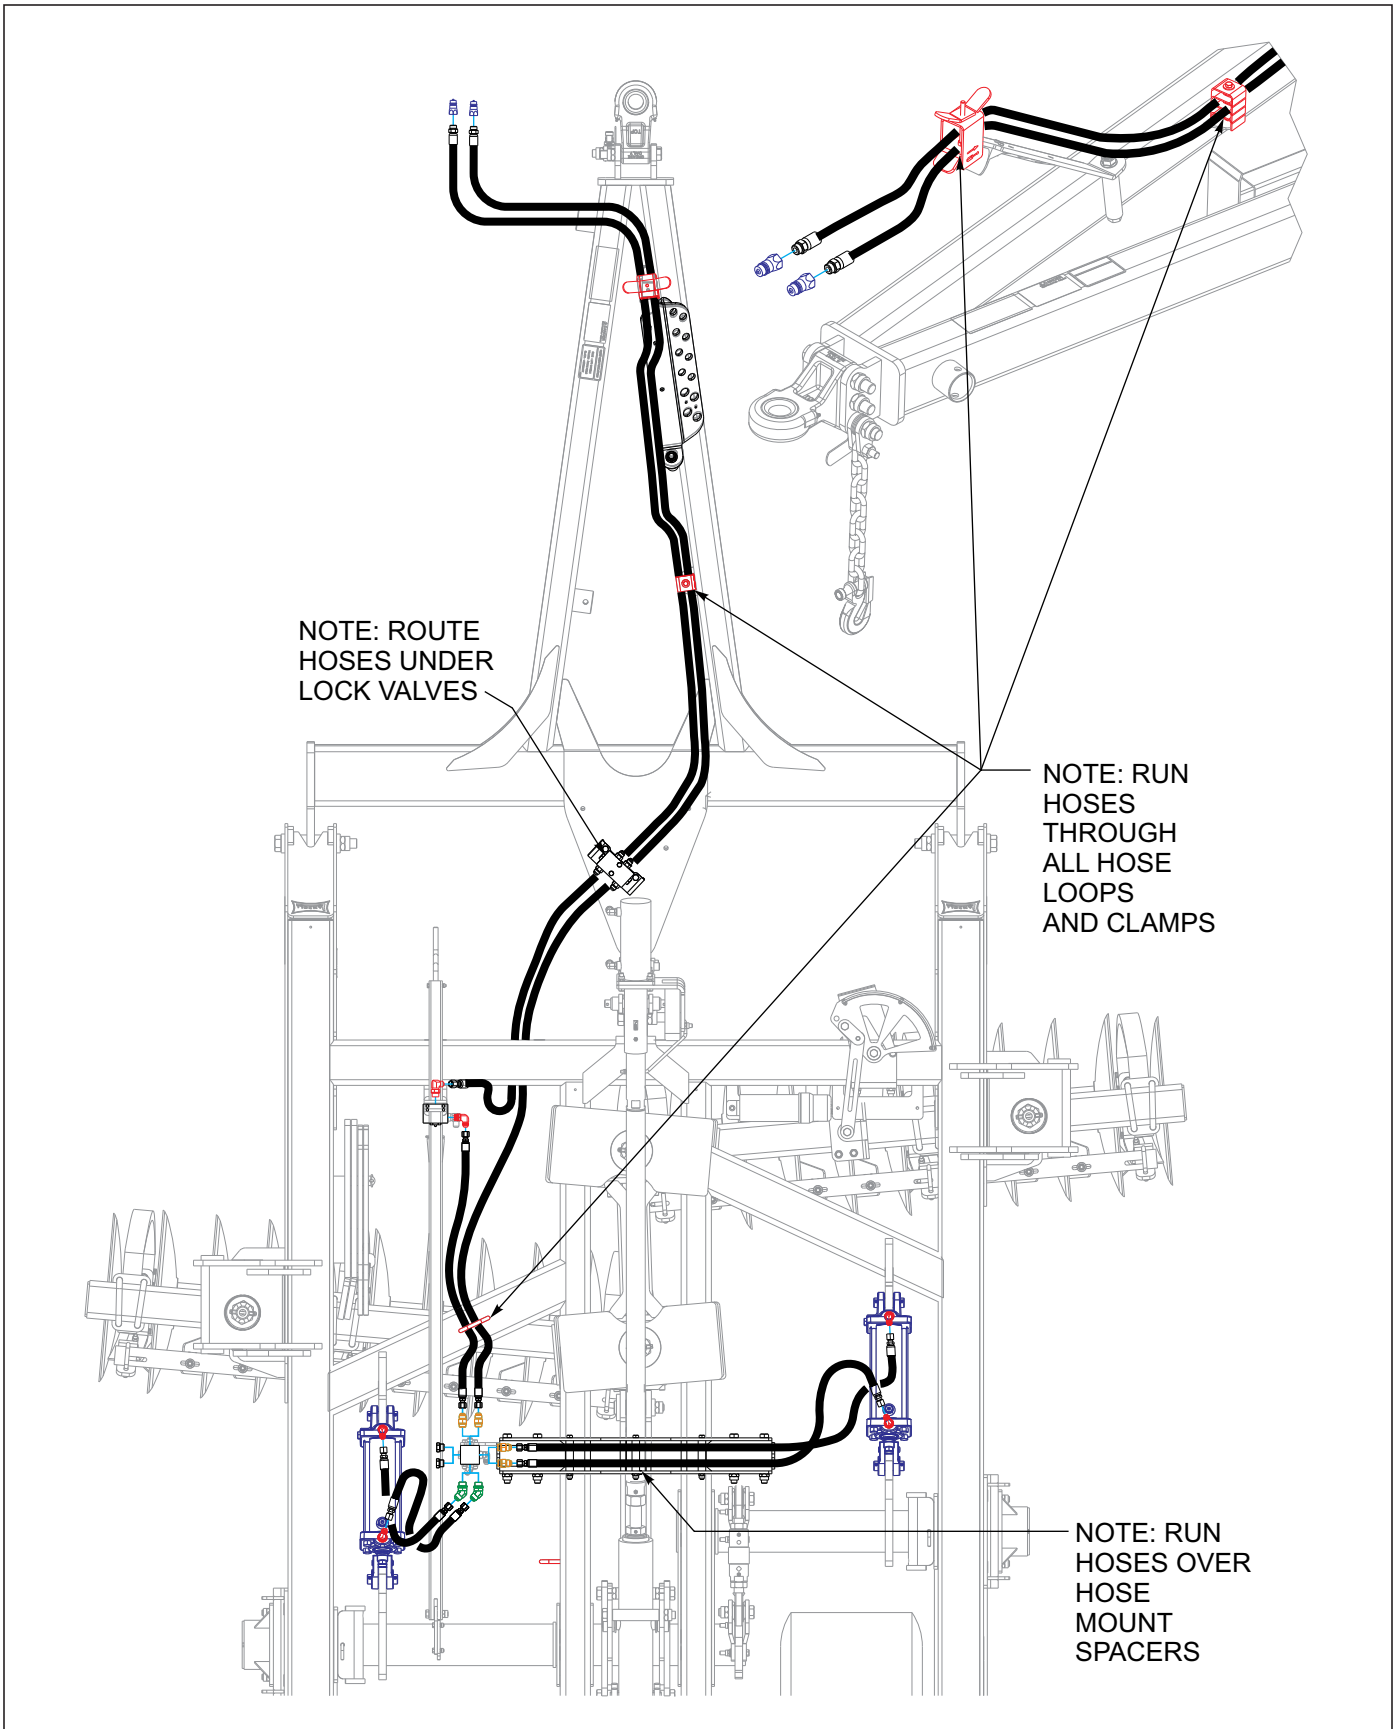

Figure 3-6: Lift Hydraulic Layout 7510-24'
7. Install lift cylinder hoses and couplers, (See Figure 3-6.,) Wrap lift hoses with blue hose wrap.